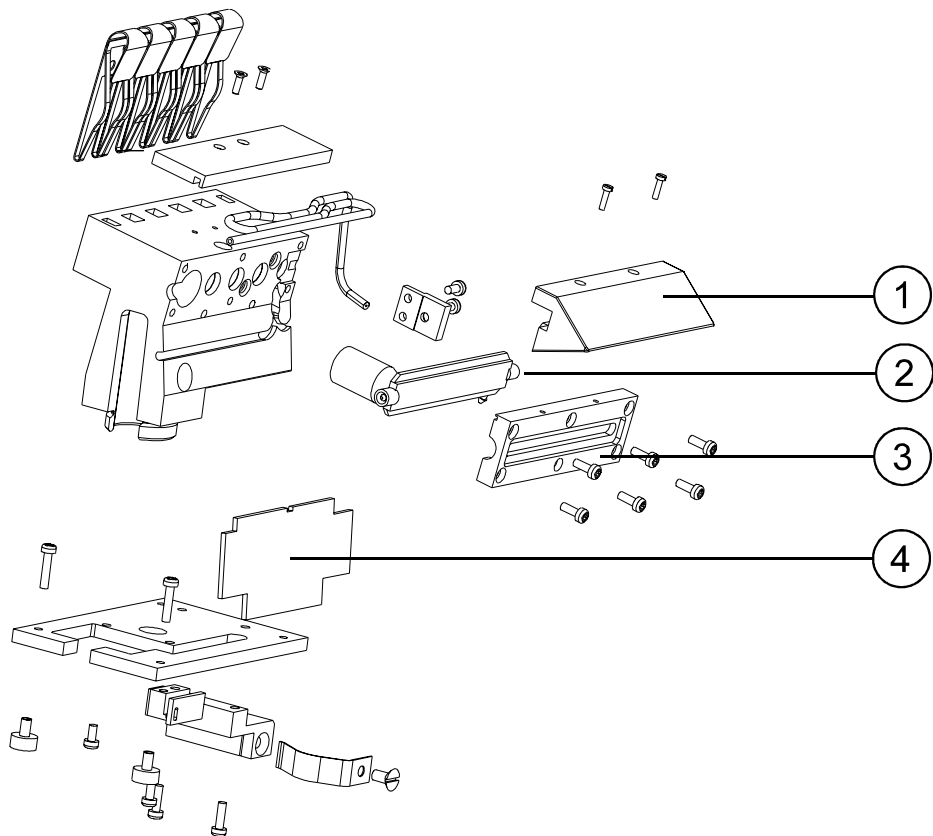

Fig. 5-2: Measuring chamber
The measuring capillary is fastened to the block with a holding flange (see Fig. 5-2, **3**).
The prism (see Fig. 5-2, **1**) is illuminated by a light guide (see Fig. 5-2, **4**) and enables clear view of the measuring capillary and the electrode tips.
4. Check the O-ring (see Fig. 5-2, **2**) in the measuring capillary.